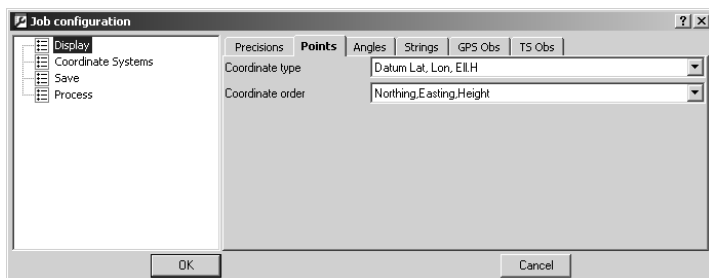

Figure 5-8. Job Configuration – Click Display
- Click **Display** on the *Job Configuration* dialog box (Figure 5-8).